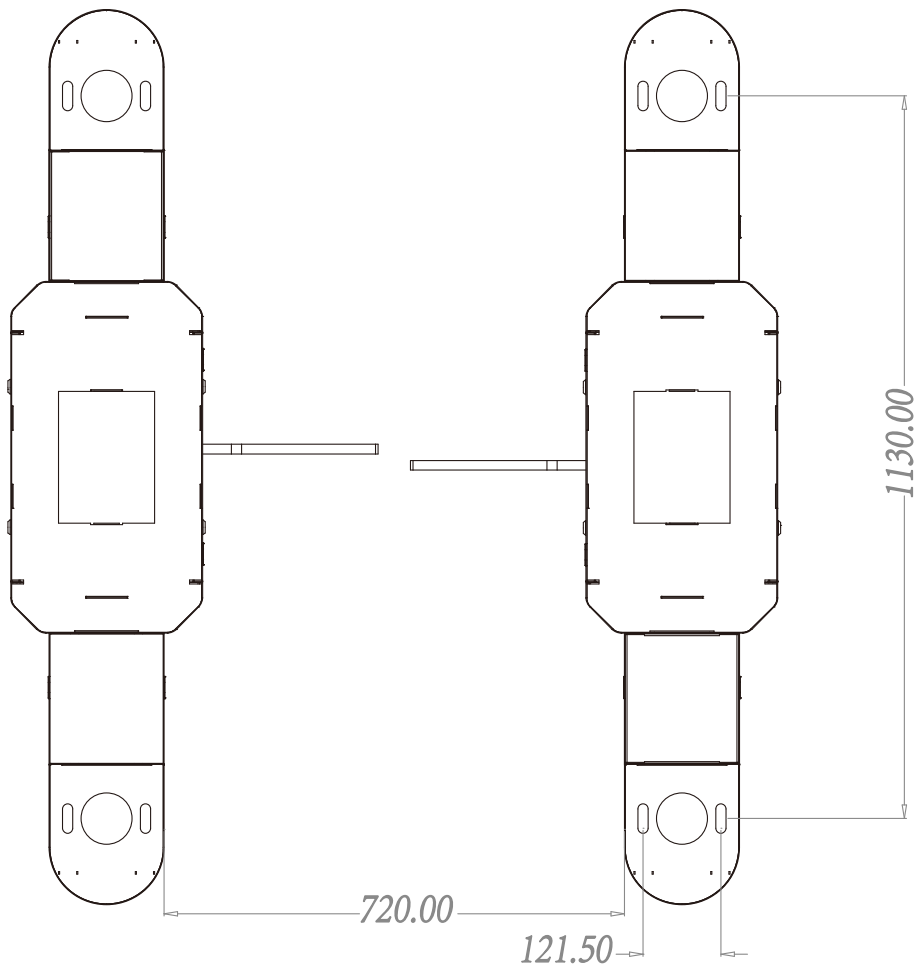

Figure 3-2
For the location of the hole where the cables come out, please refer to Figure 3-2 below.
- Alternatively, drill holes according to installation hole positions, see Figure 3-2 for installation hole positions. The unit of the figures in the drawings is mm.